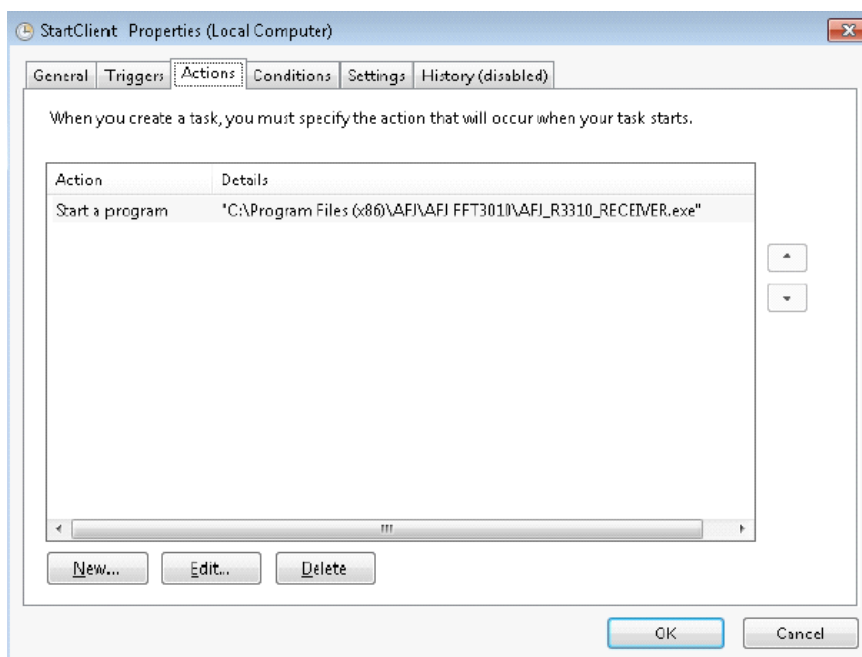

Fig. C.46: Actions tab
STEP 13 – Please select *Actions* tab and verify the status according to Fig. C.46.